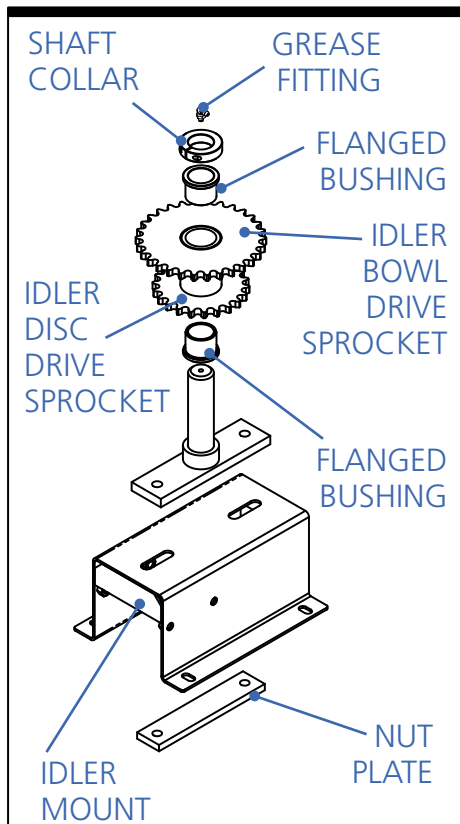

Figure 4-2. Typical FT-Series Centrifugal Feeder Idler Assembly
It is recommended you grease the idler assembly, for both the metric and ANSI single drive models, every six (6) months after installation. Note the order of assembly (see Figure 4-2).
Figure 4-2 shows a typical FT-Series idler assembly. If your idler assembly is substantially different, please contact Shibuya Hoppmann for information on your style idler assembly.